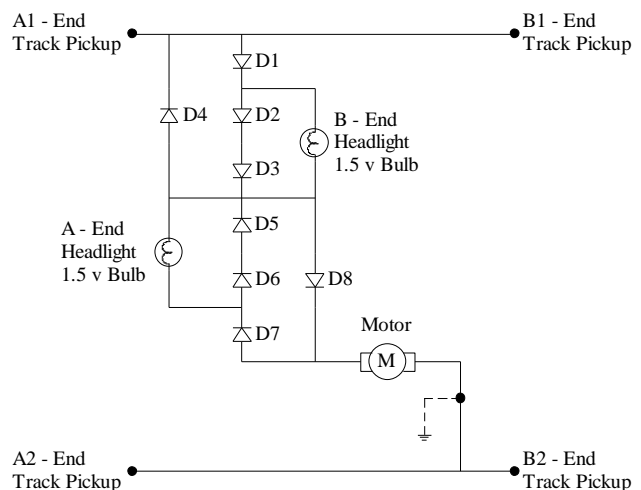

Figure 1 - Simplified Circuit for Constant Intensity Lighting of Proto 2000 Engines
In these 4 engine types I found three different circuit boards. However, each of these boards has the simplified circuit relating to the constant intensity lighting and the power to the motor as shown in Figure 1. This circuit serves to illustrate both the method of achieving constant intensity lighting and the reasons why this circuit limits the current to the motor for a specific track voltage.
First, track power is picked up by all wheels. On one side of the engine (we'll call it side 1) the power from the wheels is fed to the above circuit by wires connected to a standoff over the wheels (silver colored metal bracket similar to those found on Athearn Engines). On the other side (Side 2) the track power is either tied directly to the chassis, or ground as shown in Figure 1. It is between these two power pick-off points where all of the interesting stuff happens.
Obviously the engine has two ends which we'll call A & B, rather than front and rear, since the true front and rear of the engines varied by specific railroad operational conventions. The motor and the lighting must get power somewhere between the two sides of the engine, and that is where the circuit above comes into play. In looking at Figure 1, you'll note that there are 8 diodes (D1-D8), a motor (M) and two headlights (A & B end headlights). At the risk of boring most of you with basic electrical theory, I would like to identify the attributes and characteristics of these components.
Again referring to the circuit of Figure 1, let's follow the current flow through the system assuming the Side 1 track (that's at the top of the circuit) is positive. In this case motor current will flow from top to bottom through diodes D1, the parallel combination of series diodes D2/D3 and the B-End Headlights, through diode D8 and then through the motor. However, before any significant current can even flow through the circuit, the track voltage must increase to around 1.4 volts, dictated by the need for diodes D1 and D8 to have that voltage impressed upon them to get them to conduct electricity.
This is how the new circuit works. First, the lighting circuit is not in series with the motor so there is no drop in voltage for the motor to support the lighting. The purpose of diodes D1 and D2 is simply to provide directional lighting control. The motor could simply be connected across the track pickup points A1/B1 & A2/B2 directly, but I have found that the speed of the engine would be too great – a good rocket ship. Therefore, I have installed two diodes (D3 & D4) in series with the motor to drop the voltage – remember a diode is simply a check valve, so two are needed to allow current to flow in either direction. On several motors I have found that the engine runs too fast with installation of only diodes D3 & D4, so I've included an option of adding an additional set of diodes (D5 & D6) if needed. You could continue to add sets of diodes to further reduce the voltage, but the circuit would begin to look more and more like the initial circuit of Figure 1, so why modify the engine at all.